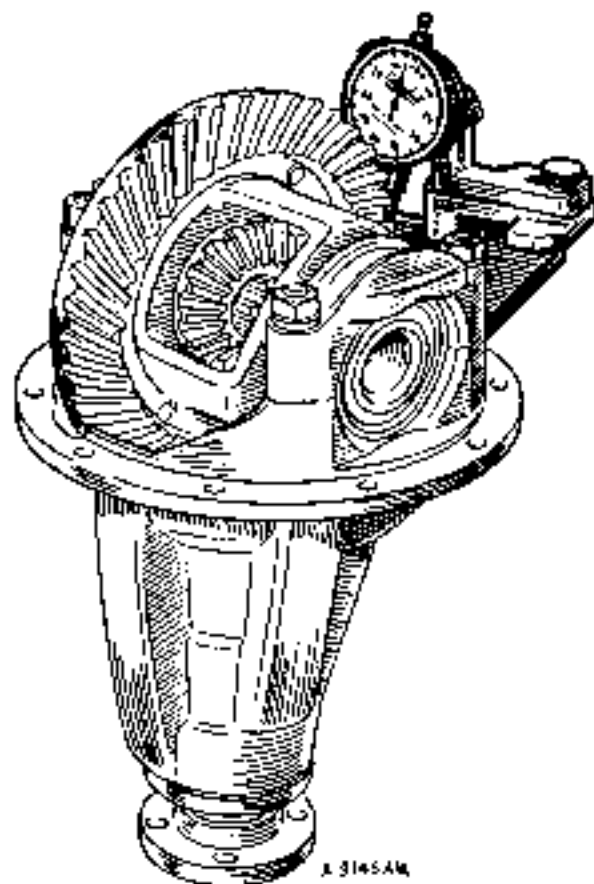

Fig. HH.11
- (2) Fit the differential to the gear carrier. Replace the bearing caps and tighten the nuts to a torque wrench reading of 65 lb. ft. (8-99 kg. m.). Bolt the special tool surface plate to the gear carrier flange and mount the clock gauge on the magnet bracket in such a way that an accurate backlash figure may be obtained (see Fig. HH.11). The correct figure for the backlash to be used with any particular crown wheel and pinion is etched on the rear face of the crown wheel concerned and must be adhered to strictly.